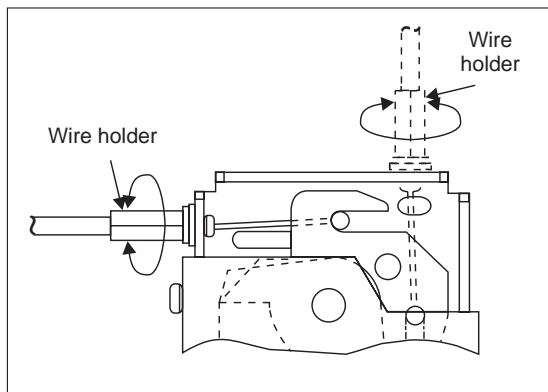

Fig. 4-61: Tightening of the wire holder
- ③ Loosen the adjuster nut and turn the adjuster counterclockwise to securely attach the end of the interlock wire.
- ④ Tighten the wire holder (tightening torque: 2.4 – 3.1 Nm; refer to fig. 4-61).